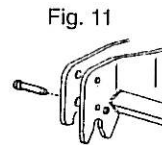

Fig. 11
3. Category II – Standard (see fig. 11 & 13)